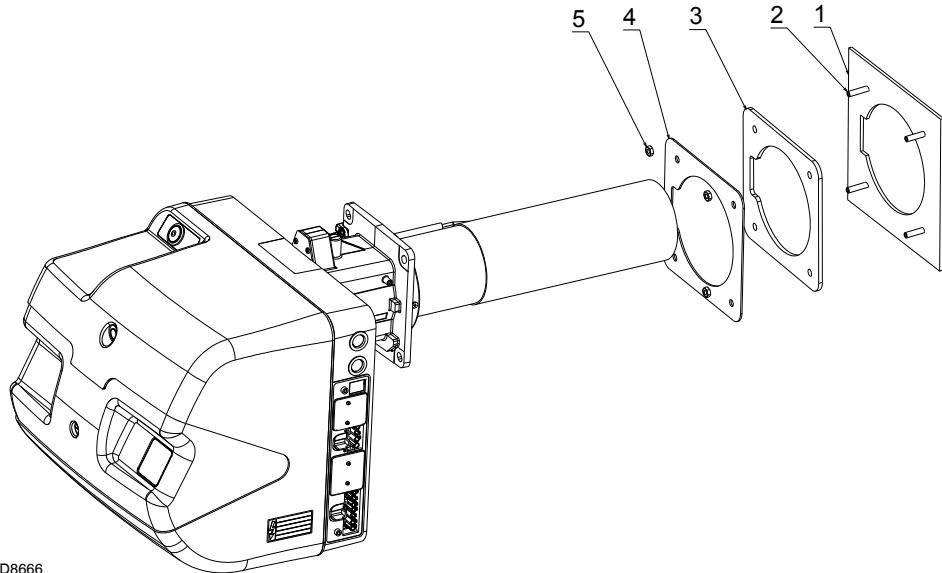

Fig. 9
- Screw the studs 2)(Fig. 9) onto the boiler plate 1)(Fig. 9).
- Position the refractory gasket 3)(Fig. 9) and the silicone rubber gasket 4)(Fig. 9).
Fix the flange 4)(Fig. 9) to the boiler plate and tighten the nuts 5)(Fig. 9).